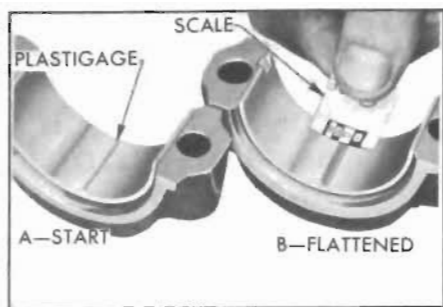

Figure 2-77—Checking Bearing Clearance With Plastigage
2. Place a piece of Plastigage lengthwise along the bottom center of the lower bearing shell (Figure 2-77, View A), then install cap with shell and tighten bolt nuts to 30-35 ft. lbs. torque. **NOTE:** The rib on edge of cap and the conical boss on web of rod
5. Using the scale printed on the Plastigage envelope, measure the flattened Plastigage at its widest point. The number within the graduation which most closely corresponds to the width of Plastigage indicates the bearing clearance in thousandths of an inch. See Figure 2-77, View B.